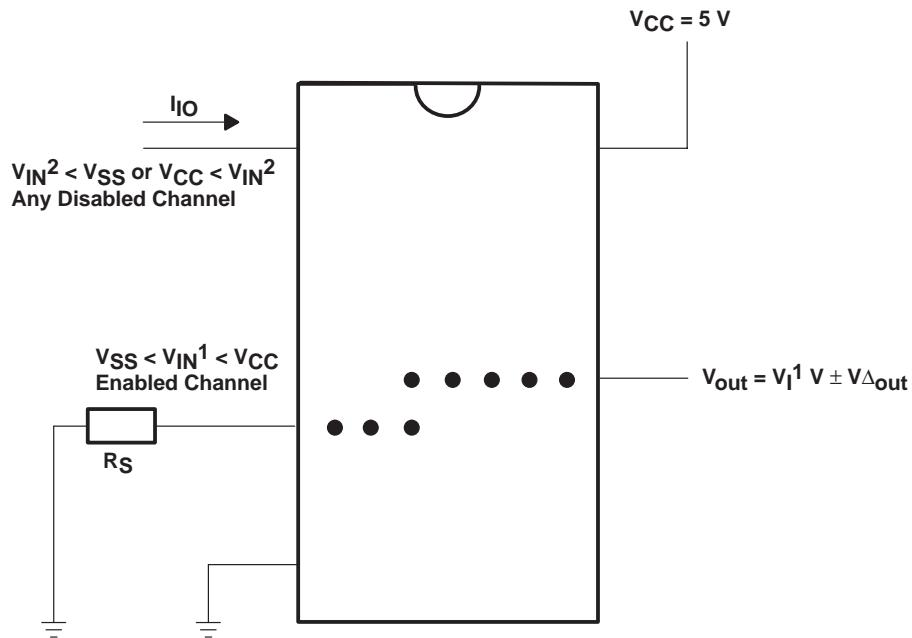

Figure 1. Injection-Current Coupling Specification
**injection-current coupling specifications, TA = -40°C to 125°C (see Figure 1)**